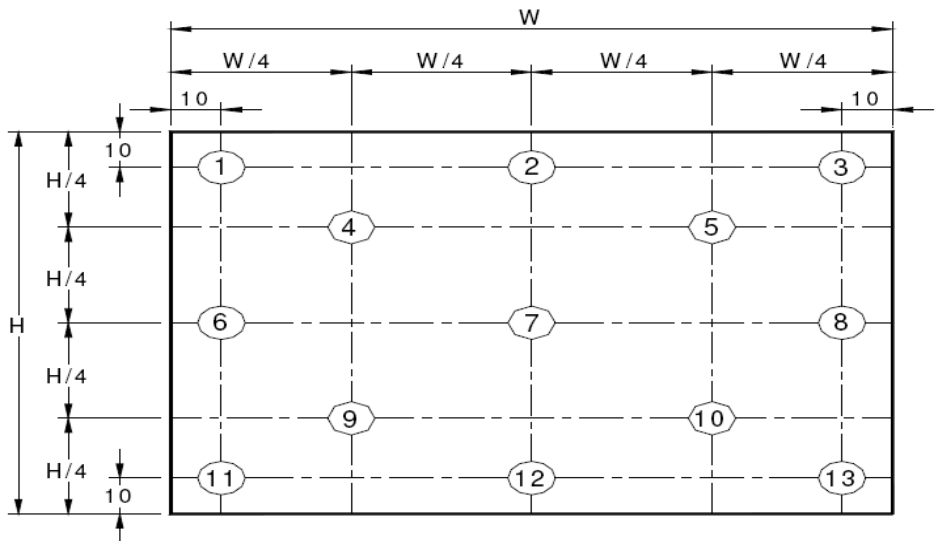

Figure 9. Uniformity Measurement Locations (13 points)
<p>Notes :</p> <ol style="list-style-type: none"> Viewing angle is the angle at which the contrast ratio is greater than 10. The viewing angles are determined for the horizontal or 3, 9 o'clock direction and the vertical or 6, 12 o'clock direction with respect to the optical axis which is normal to the LCD surface (see Figure 7). Contrast measurements shall be made at viewing angle of $\Theta = 0$ and at the center of the LCD surface. Luminance shall be measured with all pixels in the view field set first to white, then to the dark (black) state . (see Figure 7) Luminance Contrast Ratio (CR) is defined mathematically. <div style="text-align: center;"> $CR = \frac{\text{Luminance when displaying a white raster}}{\text{Luminance when displaying a black raster}}$ </div> Center Luminance of white is defined as luminance values of 5 point average across the LCD surface. Luminance shall be measured with all pixels in the view field set first to white. This measurement shall be taken at the locations shown in Figure 8 for a total of the measurements per display. The White luminance uniformity on LCD surface is then expressed as : $\Delta Y = \text{Minimum Luminance of 5(or 13) points} / \text{Maximum Luminance of 5(or 13) points.}$(see Figure 8 and Figure 9). The color chromaticity coordinates specified in Table 5 shall be calculated from the spectral data measured with all pixels first in red, green, blue and white. Measurements shall be made at the center of the panel. The electro-optical response time measurements shall be made as Figure 10 by switching the “data” input signal ON and OFF. The times needed for the luminance to change from 10% to 90% is T_r, and 90% to 10% is T_f. Cross-Talk of one area of the LCD surface by another shall be measured by comparing the luminance (Y_A) of a 25mm diameter area, with all display pixels set to a gray level, to the luminance (Y_B) of that same area when any adjacent area is driven dark. (See Figure 11).
The White luminance uniformity on LCD surface is then expressed as : $\Delta Y5$ = Minimum Luminance of five points / Maximum Luminance of five points (see Figure 8) , $\Delta Y13$ = Minimum Luminance of 13 points /Maximum Luminance of 13 points (see Figure 9).